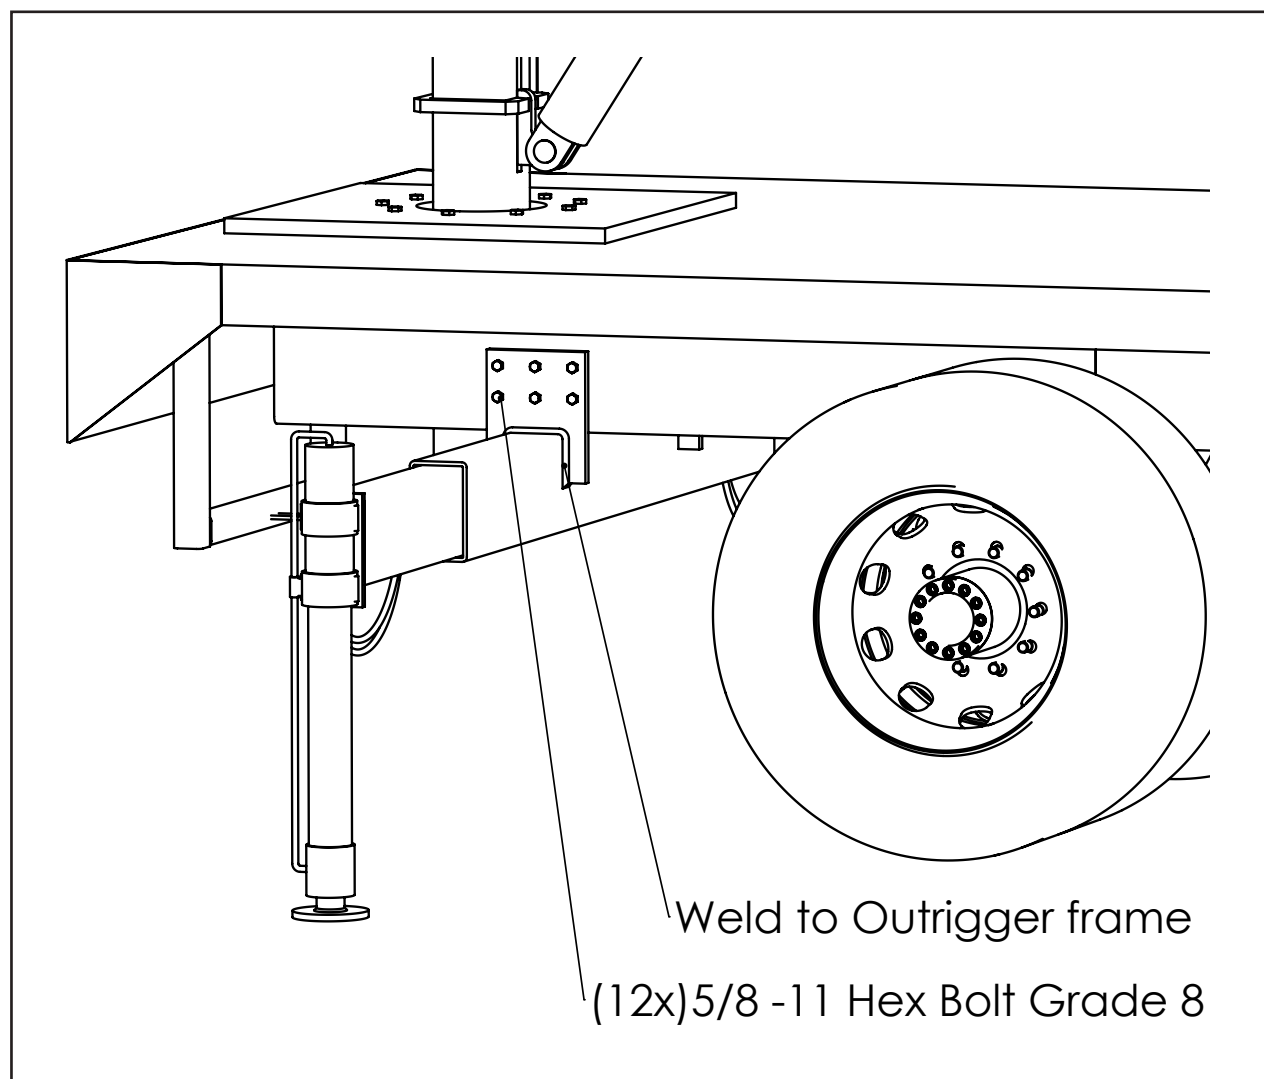

Figure 7-1
(See Figure 7-1)
- 3.) Block-up the Outrigger frame with the slides vertical and the bottom of the frame approximately twelve (12) inches off the ground (this may vary depending upon the type of truck). The rear side of the frame should be 6 to 12 inches forward of the turntable post. Adjust position to avoid interference with attachments to the chassis frame. The bottom of the frame must be level in all directions.
- 4.) Weld the Outrigger frame to the chassis frame and to the bed frame, if possible, using full weld beads. Use eight beads with a minimum throat of 1/4 inch (See Figure 7-1)